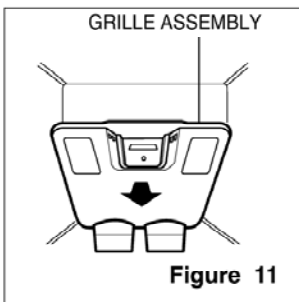

Figure 11
1. Pull out the grille assembly. (Figure 11)